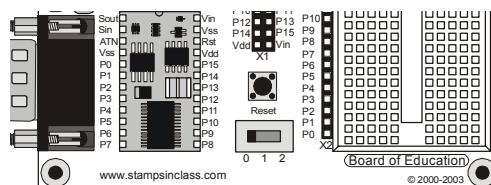

Figure 1-48
- ✓ If you are using the Board of Education Rev C, move the 3-position switch to position-0 by pushing it to the left as shown in Figure 1-48.